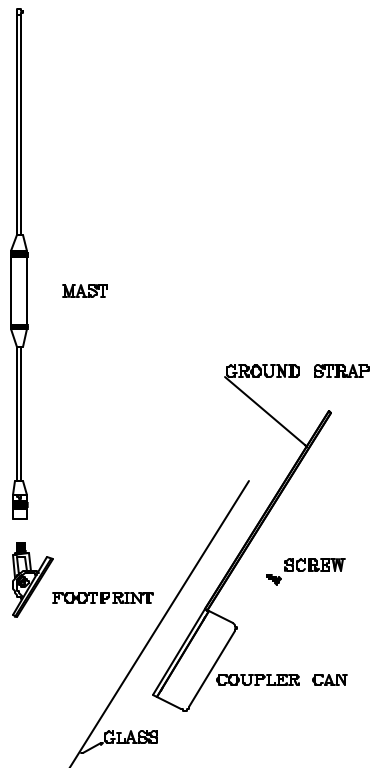

Figure 5 - General Assembly
3. Clean glass with the alcohol pad and adhere coupling box. Clean the outside of the window with the same alcohol pad, remove the adhesive backing on foot and place over the center of the coupling can (Refer to Figure 5 – General Assembly).